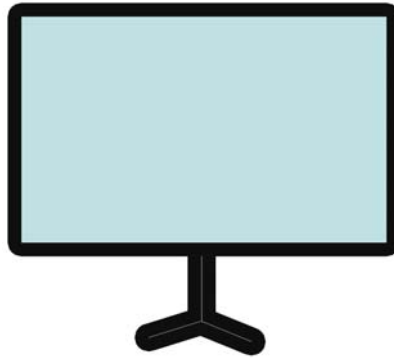

Figure 5. Corrected Projection
- When all four corners are identified, press **OK** and the CornerKlick driver corrects the projected image (as shown in Figure 5).